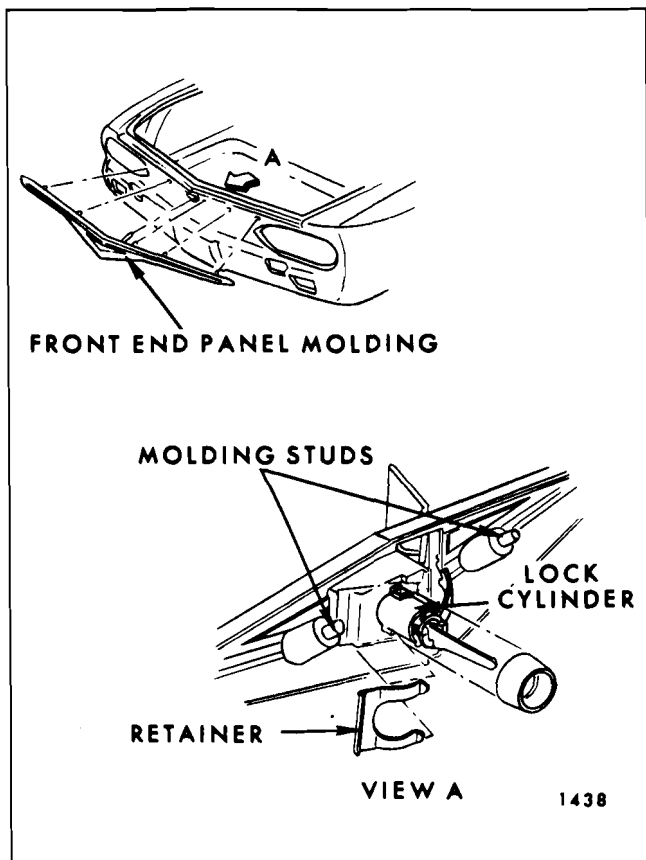

Fig. 5-27—Torque Rod Removal - Left Side
7. In like manner remove rod on left side of body (Fig. 5-27).